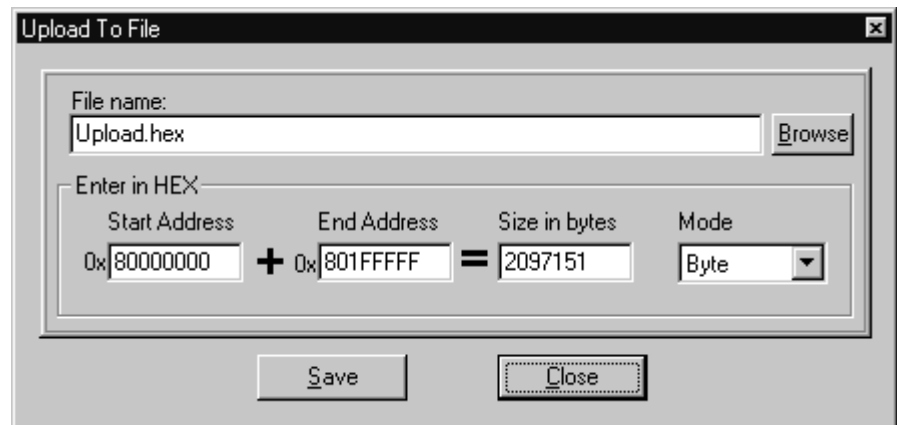

Figure 3-5 Upload To File Dialog Box
10. To upload FLASH memory contents to a file in your PC, click the **Upload** button. The **Upload To File** dialog box appears, as shown in Figure 3-5.